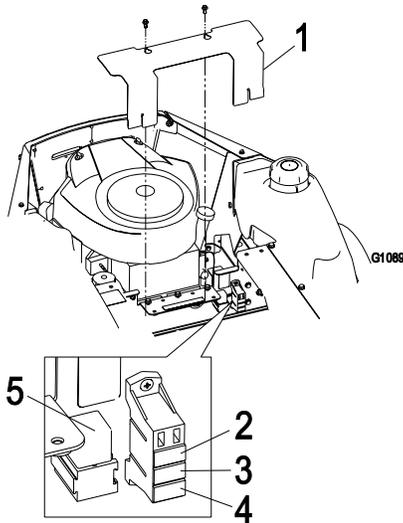

Figure 34
1. Raise the seat to gain access to the fuse holder (Figure 34).
2. Remove cover as shown in (Figure 34).
3. To replace a fuse, pull out on the fuse to remove it (Figure 34).